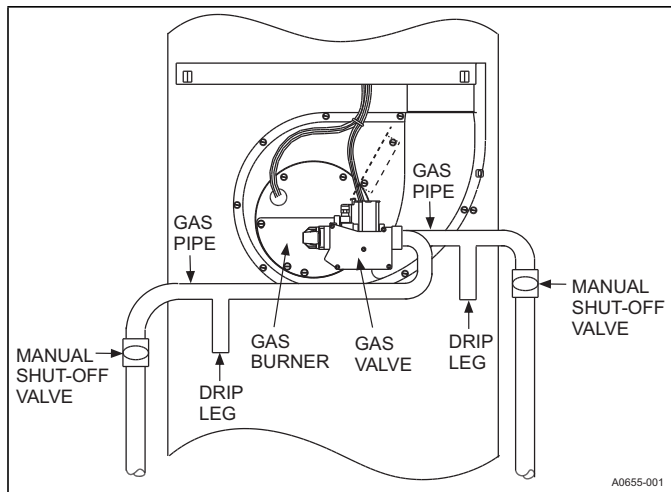

Figure 15: Gas piping
Gas piping may be connected from either side of the furnace using any of the gas pipe entry knockouts on both sides of the furnace. Refer to Figure 15.
1. Shut off gas supply at valve upstream from furnace or at meter as required. Refer to Figure 15.